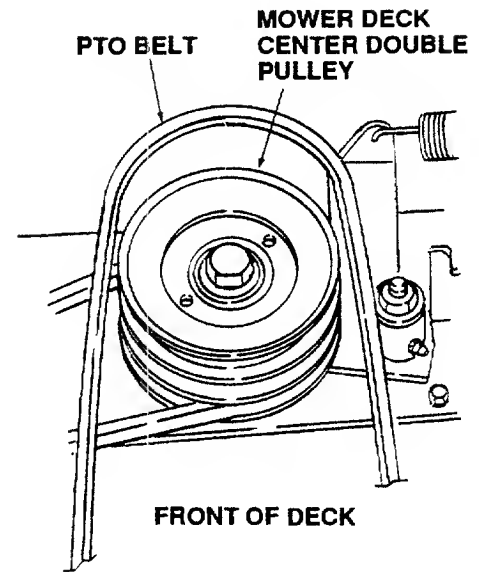

Figure 59
13. Install the rearward end of the PTO belt on the upper pulley of the deck center double-pulley (Refer to Figure 59). Ensure that the narrow side of the belt engages the groove of the upper pulley.